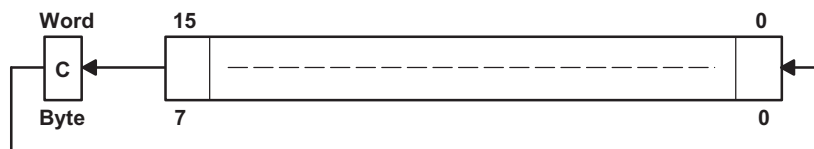

Figure 3-15. Destination Operand-Carry Left Shift
Description	The destination operand is shifted left one position as shown in Figure 3-15 . The carry bit (C) is shifted into the LSB and the MSB is shifted into the carry bit (C).